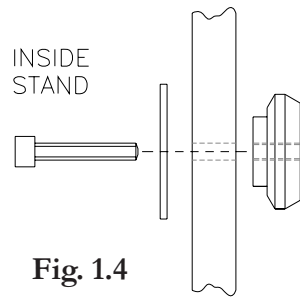

Fig. 1.4
- 1.3.1 Assemble the 2 spigots to the insert head stand, as shown in Fig. 1.4 below. Holes are pre-drilled in the back face of both the LH and RH cupboards, allowing either position to be used.